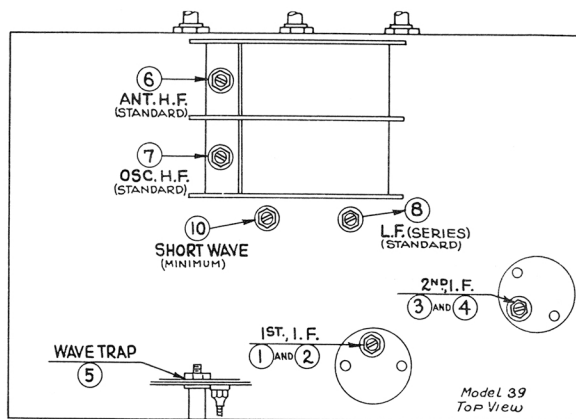
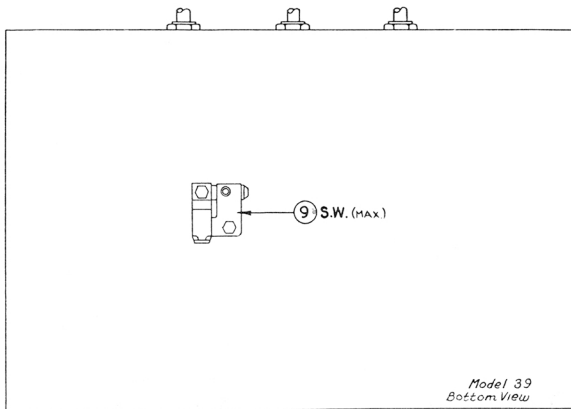

Fig. 12
Fig. 13
The two pairs of I.F. compensating condensers are located one pair at the top of each of the two I.F. transformer shields. These are the two metal "cans" near the rear corner of the chassis. Each of the I.F. transformers has a dual compensating condenser mounted at its top, and accessible through a hole in the top of the coil shield. In the dual compensators, the Primary circuit is adjusted by turning the screw; the Secondary circuit is adjusted by turning the hex-head nut. The condenser numbers, referring to Fig. 12 are ①, ②, ③ and ④.
Adjustments are then made in the following order; positions of all compensators (except number ⑨ visible in Fig. 13) are shown in Fig. 12.
to the antenna and ground terminals of the receiver. Set the Wave-Band Switch of the receiver to the standard broadcast band (left position) and the Station Selector at the low frequency (600 K.C.) end. Adjust the Wave Trap condenser to give MINIMUM response to a 460 K.C. signal from the signal generator. The Wave Trap ⑤ is located at rear and underneath the chassis, and is shown in Fig. 12. It is reached from the rear of the chassis, by inserting the fibre wrench through the hole near rear center of sub-base.
H.F. end: Set signal generator at 1500 K.C. and dial at 150 (lower scale). Now adjust condensers ⑥ (Antenna) and ⑦ (Oscillator H.F.) to get maximum response. These condensers are located on the tuning condenser assembly and visible in Fig. 12.
L.F. (series): Turn dial to 60 and set signal generator at 600. Adjust condenser ⑧ for maximum output. This is reached from the top, through hole in chassis at rear of tuning condenser (see Fig. 12).
and 15 megacycles (top scale) and you should there pick up the 4th harmonic (14.4) of the 3.6 M.C. signal. Adjust the S.W. (maximum) compensator ⑨ (see Fig. 13) to give maximum response in the output meter. This compensator is reached from underneath the chassis.
S.W. (minimum): Turn the dial of set to a little more than 7 megacycles at which point the second harmonic of the signal generator (7.2 M.C.) should be heard. Adjust condenser ⑩ (S.W. series) for maximum response. This condenser is reached from above, through hole in top of chassis (see Fig. 12).